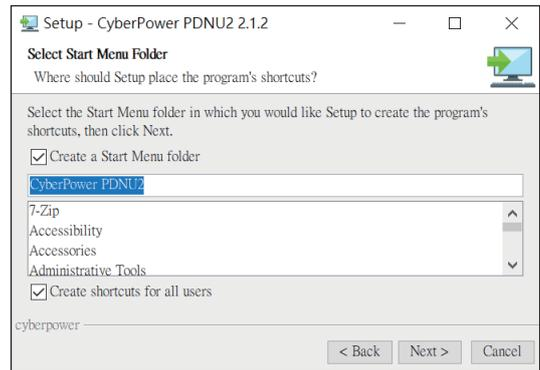

Figure 3
Step 4. Select **Next** to confirm the settings and install (Figure 3).